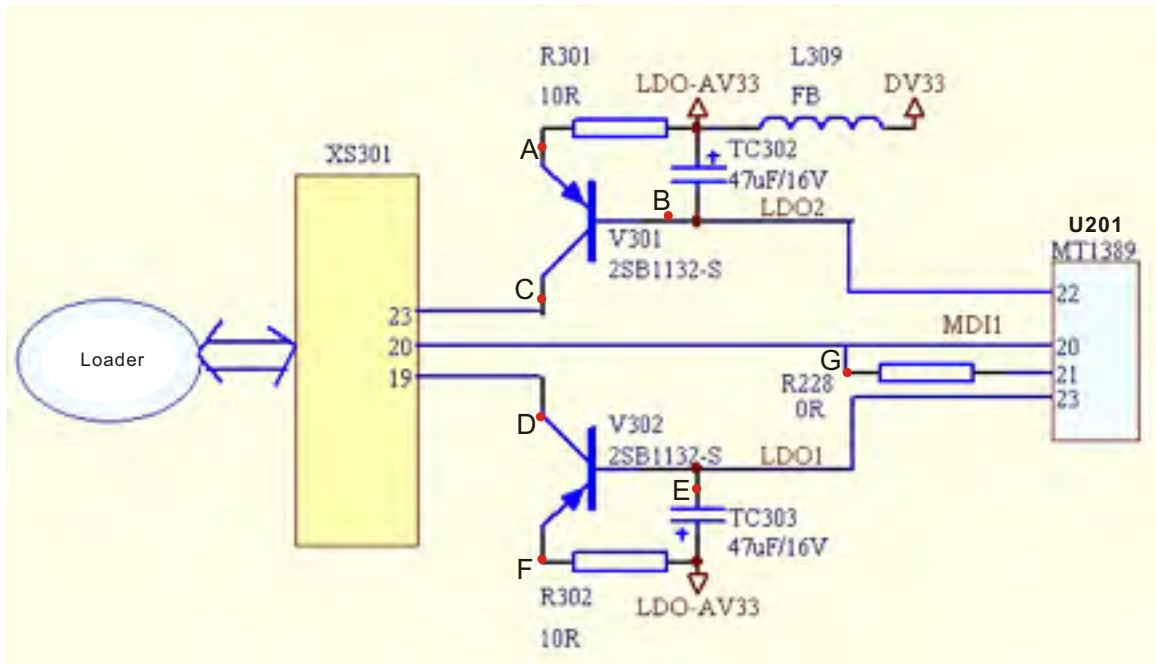

Figure 3.2.3.1 Laserpower control circuitdiagram
1. The circuit schematic diagram is shown as the following figure 3.2.3.1: